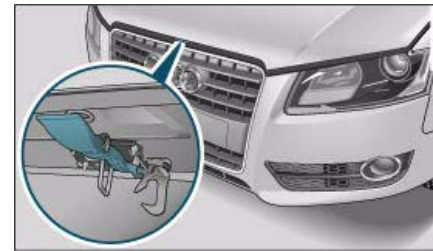

Fig. 222 Release catch under the bonnet
- Press the release catch under the bonnet upwards ⇒ fig. 222. This will release the arrester hook.